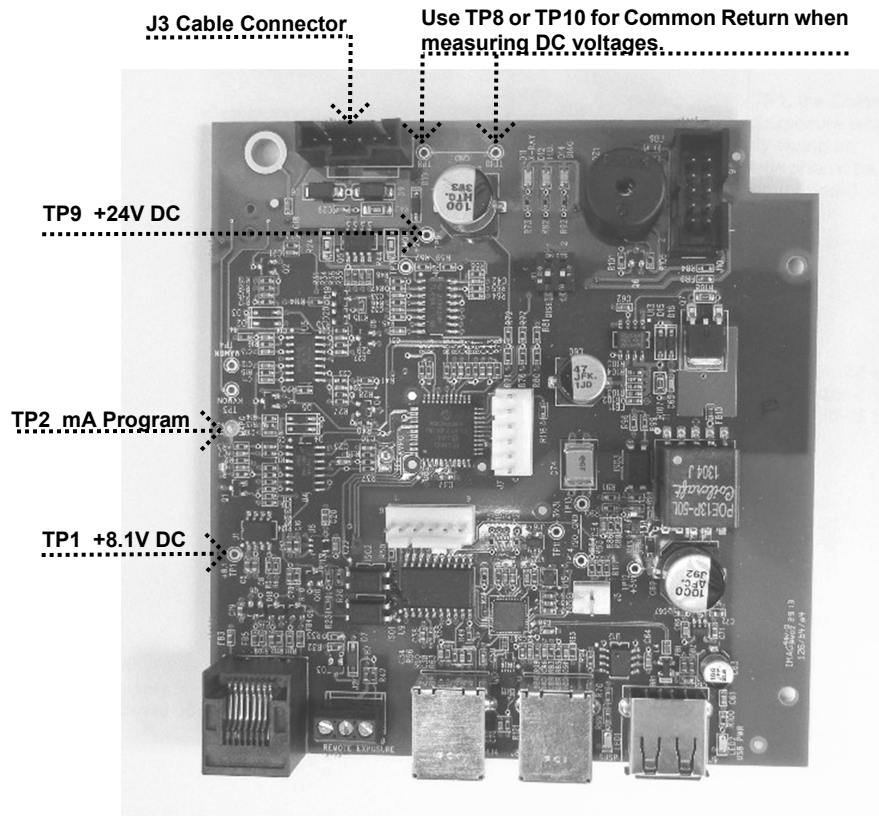

Figure 64
5. If these voltages are present, measure for the same values at the Tubehead Assembly at the connector J5 (black) on the blue and gray conductors and the blue and brown conductors. If the voltages are not present, inspect the inter-connect cables between the control and Tubehead Assembly. Connections for this cable begin with controls at J1 of the Power Supply Board and J3 of the Logic Board. As shown in *Figure 64*, an internal set of connections will be accessed below the distal side of the horizontal arm and at the inside top of the Tubehead Yoke. The final set of connections is accessed by removing the Pivot Cap located at the attachment point of the Tubehead to the Yoke.